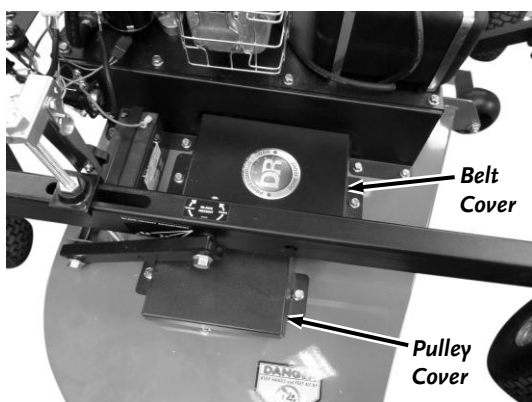

Figure 44
2. Remove the two bolts from each of the two Pulley Covers using a 9/16" Wrench and remove the Covers (Figure 44).